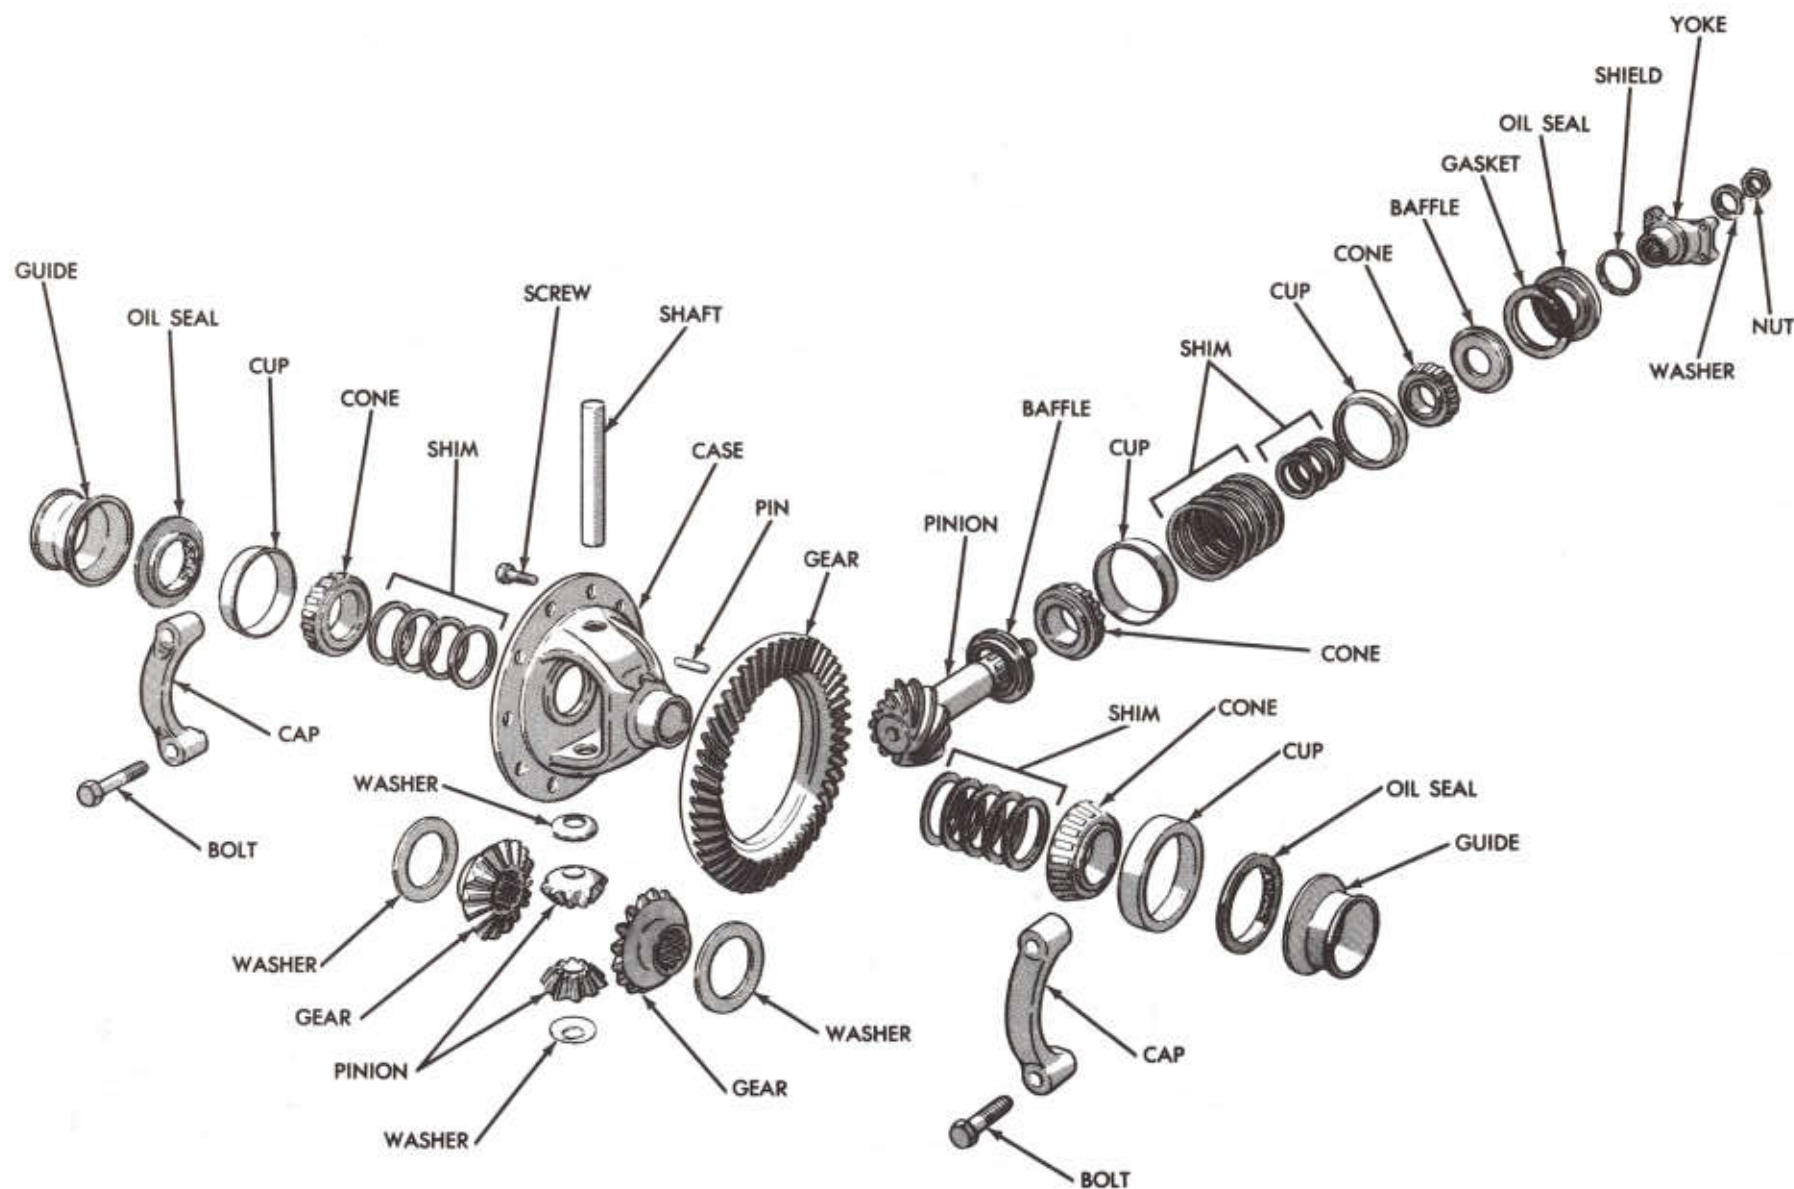

Fig. 25—Differential, Front Driving (60) Axle
(1) Wash and clean all parts in a suitable cleaning solvent and with the exception of bearing cones, dry with compressed air. To clean axle housing tubes, insert a stiff wire into tube, attach a clean cloth to wire at center section and withdraw from center outward. Do not steam clean. Figure 25 shows a disassembled view of the differential assembly.
(2) All machined contact surfaces in the axle housing and differential bearing caps should be smooth and free of any raised edges. Front and rear pinion bearing cup bore machine surfaces should be smooth. Raised metal on shoulders of bores incurred in removal of cups should be removed with a hand stone.
(3) Differential bearings and front and rear pinion bearing cone and cup assemblies should have a smooth appearance with no broken or dented surfaces on rollers or roller contact surfaces. The bearing roller retainer cages must not be distorted or cracked. **When replacing bearings, always replace the cup and cone in a set only.**
(4) Examine differential pinion mate shaft, pinion mates, side gears and thrust washers for wear or damage, replace all defective parts. **Pinion mates should be replaced in sets. Do not replace one mate only.**
(5) Inspect drive gear and pinion for worn or chipped teeth or damaged attaching bolt threads. If replacement is necessary, replace both the drive gear and drive pinion as they are available in matched sets only.
(6) Inspect universal joint flange for cracks, worn splines, pitted, rough or corroded oil seal contacting surface. Repair or replace universal joint flange as necessary.
(7) Inspect drive pinion bearing shim pack for broken, damaged or distorted shims. Replace, if necessary, during establishment of pinion bearing preload.